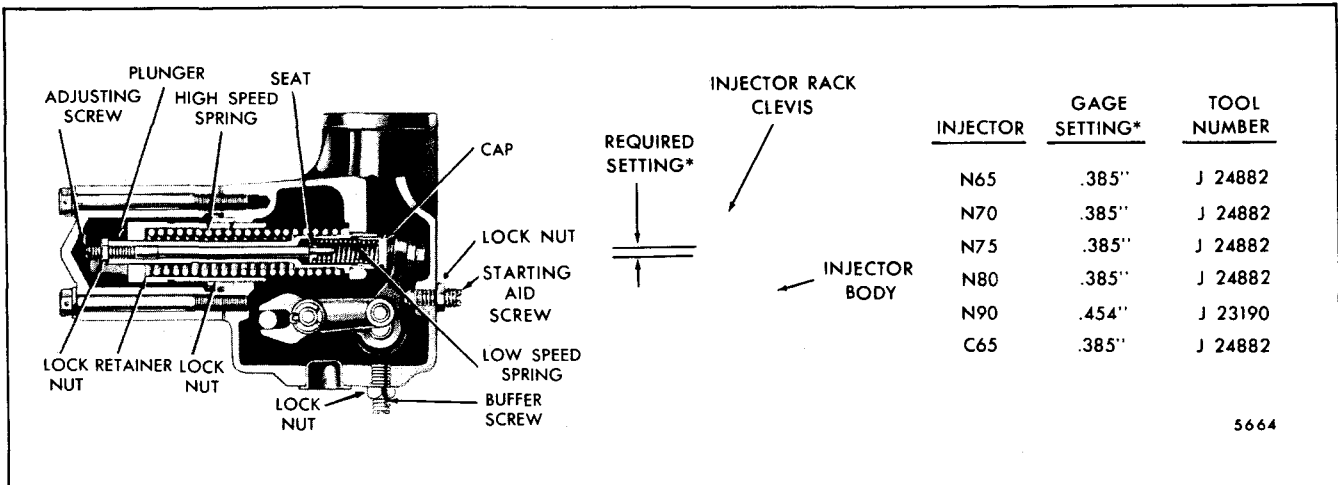

Fig. 6 - Starting Aid Screw Adjustment
The starting aid screw (Fig. 6) is threaded into the governor housing. This screw is adjusted to position the injector racks at less than full-fuel when the governor speed control lever is in the idle position. The reduced fuel makes starting easier and reduces the amount of smoke on start-up.
2. Adjust the starting aid screw to obtain the required setting between the shoulder on the injector rack clevis and the injector body. Select the proper gage (Fig. 6) and measure the setting at any convenient cylinder. When the starting aid screw is properly adjusted, the gage should have a clearance of approximately 1/64" (.397 mm) in the space along the injector rack shaft between the rack clevis and the injector body.